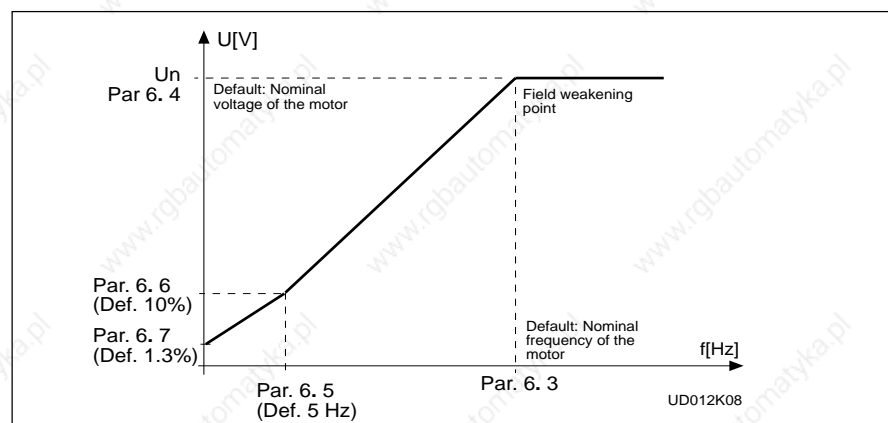

Figure 3.4-2 Programmable U/f curve.
**Programm. U/f curve** The U/f curve can be programmed with three different points. The parameters for programming are explained in Chapter 3.5.2. The programmable U/f curve can be used if the other settings do not satisfy the needs of the application. See figure 3.4-2.